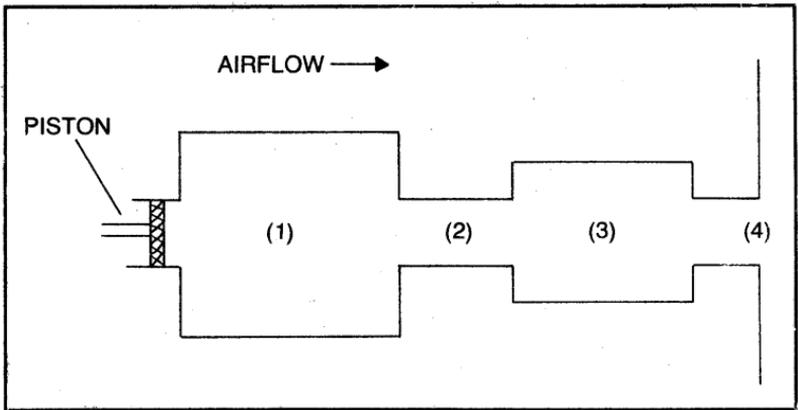

Fig. 2-5. Bell Laboratories' two-tube resonance model.
Another attempt to capture the actions of speech comes in the form of a mathematical description. At the 38th meeting of the Acoustical Society at St. Louis, Nov. 18, 1949, H.K. Dunn presented a paper introducing a model for vowel resonances. Dr. Dunn, who did his work at Bell Laboratories, assumed the vocal tract could be modeled as two resonant cavities, as shown in Fig. 2-5. He described it as a series of cylindrical sections placed end to end. The piston represents the source of air at the vocal cords. The four cylinders represent (1) the throat cavity, (2), the mouth cavity, (3) a constriction due to the lips and (4) a baffle that acts as the speaker's face.